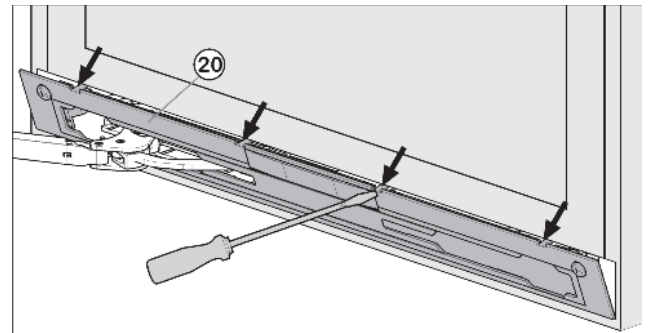

Fig. 10
- ▶ Release panel *Fig. 10 (20)* using a slotted screwdriver and remove.